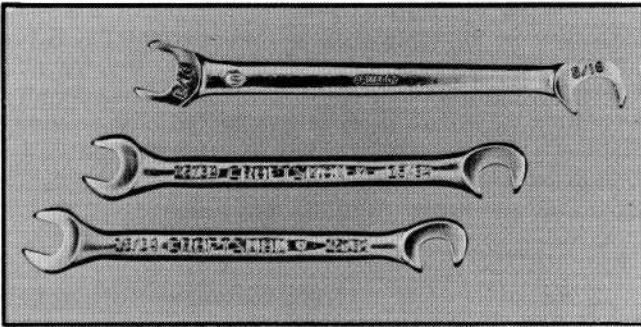

Fig. 6-8. Wrenches required to loosen and remove the semi-rigid cable connectors.
**Maintenance Tools:** Open-end offset wrenches are required to loosen the nuts for the semi-rigid coax cable connectors. Fig. 6-8 shows the two 15/64 wrenches and a 5/16 inch wrench ground so it will fit into limited access spaces. The special 5/16 wrench may be ordered from Tektronix, Inc. (Part No. 000-0307-00) if desired.